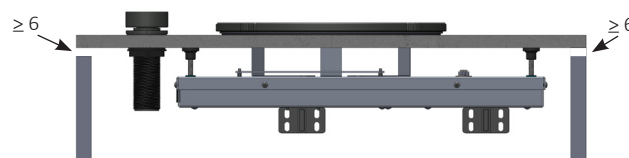

fig. 6
- Ensure that there is a minimum gap of 6 mm between the front edge and the underside of the countertop. This gap must also be maintained at the rear to ensure proper ventilation (see fig. 6).